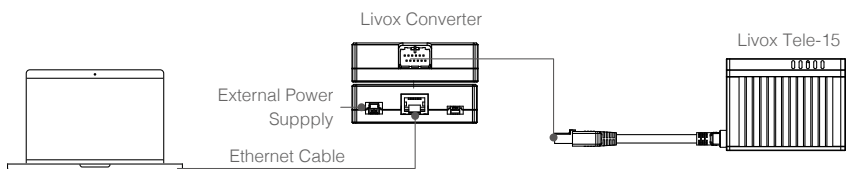

Figure 4.2.1 Connecting using static IP address
2. Connect the Tele-15, Livox Converter 2.0, external power source, and computer by following Figure 4.2.1.
1. Follow Figure 4.2.1 to connect the Tele-15, Livox Converter 2.0, external power source, and computer.